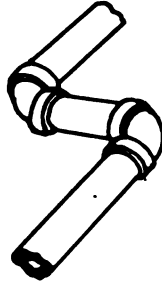

Fig. 34.—A Swing Joint.
A. A swing joint is made with two elbows and a nipple and is employed to allow a pipe to expand at right angles to its alignment. Fig. 34.